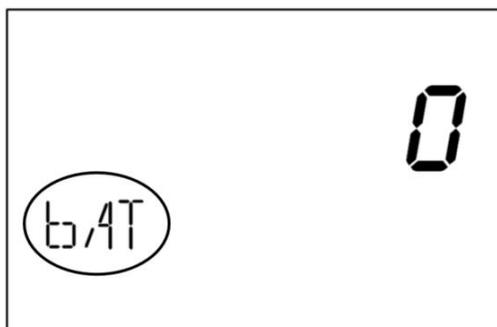

Figure 18
1) In the main interface of the machine, press and hold the "BATCH" button on the right side for about 4 seconds until the display jumps to the customized batch value setting interface shown in Figure 18 below. In this interface, the "bAT" character keeps flashing in the lower left corner.